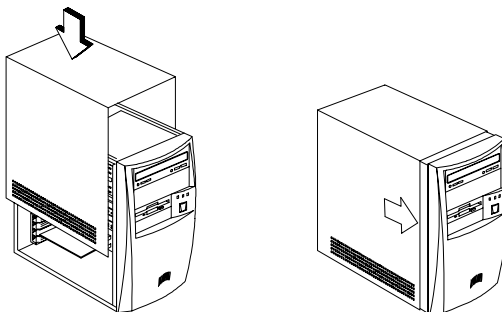

Figure 4-3 Replacing the Housing Cover
1. Replace the housing cover as shown in Figure 4-3.